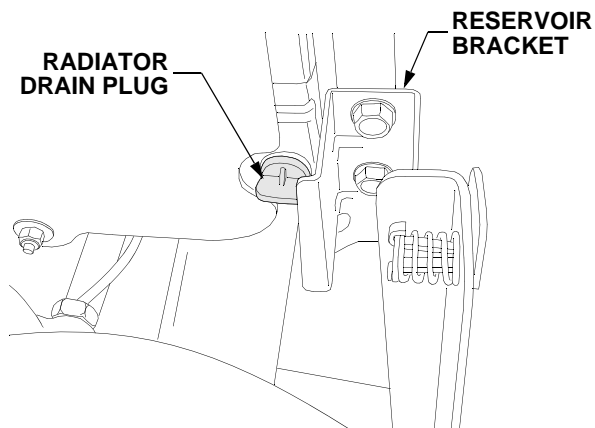

Figure 56
- Locate the radiator drain plug in the lower *right* rear corner of the radiator. See Figure 56.